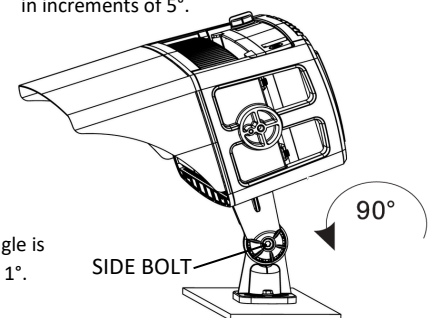

Fig. 11
3. To make vertical angle adjustments loosen the side bolt with a M10 Allen key. Rotate the fixture up to 90° in each direction, and tighten bolt at 50 Nm (36.9 ft.lbs) to secure (Fig. 11).